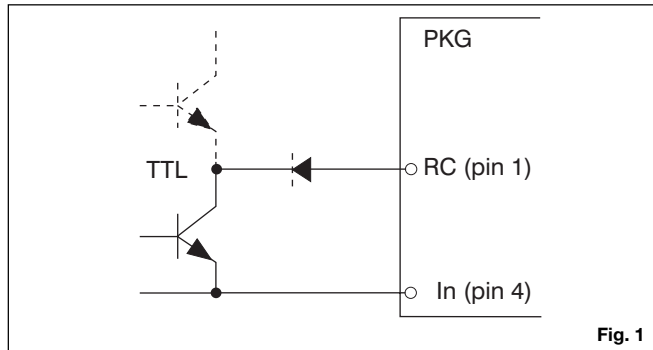

Fig. 1
Remote turn-on and turn-off can be realized by using the RC-pin. Normal operation is achieved if pin 1 is open (NC). If pin 1 is connected to pin 4 the PKG power module turns off. To ensure safe turn-off the voltage difference between pin 1 and 4 shall be less than 1.0 V. RC is TTL open collector compatible (see fig. 1).